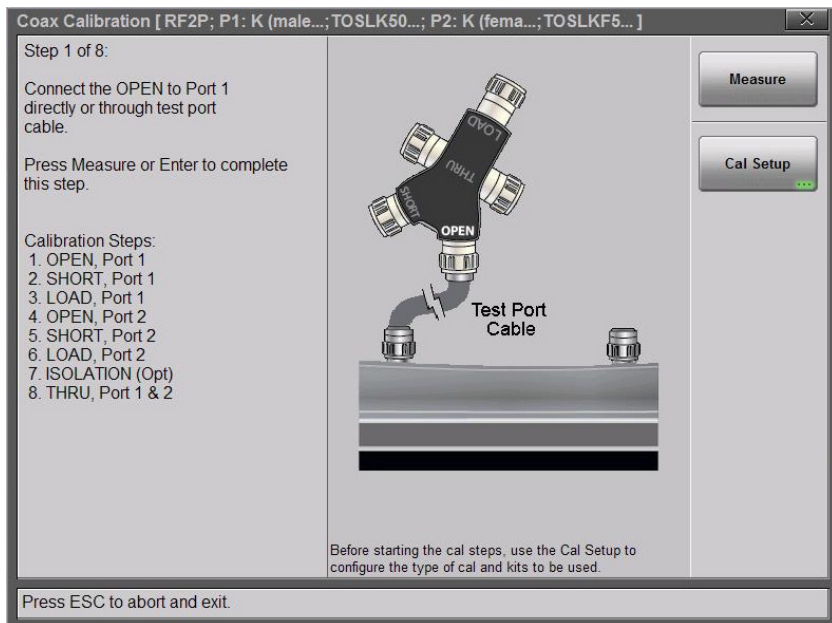

Figure 7-11. Calibration Dialog Box for Coax
5. Press **Measure** and follow the on screen instructions (see Figure 7-11 on page 7-17).
Figure 7-11 shows the Calibration dialog box illustrating calibration setup and calibration steps. On-screen instructions are given for each step.